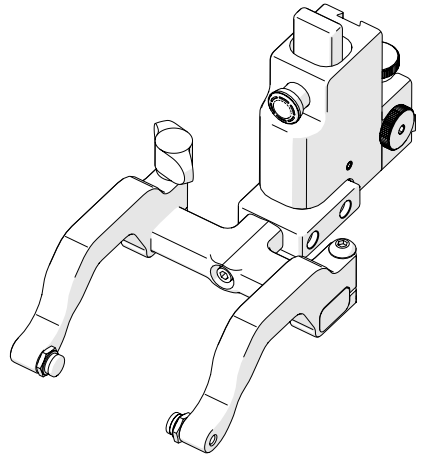

Fig. 50 - 90° probe holder positioning
2. Orient the yoke to the front of the probe holder and screw the yoke into the threaded hole provided (Fig. 50).